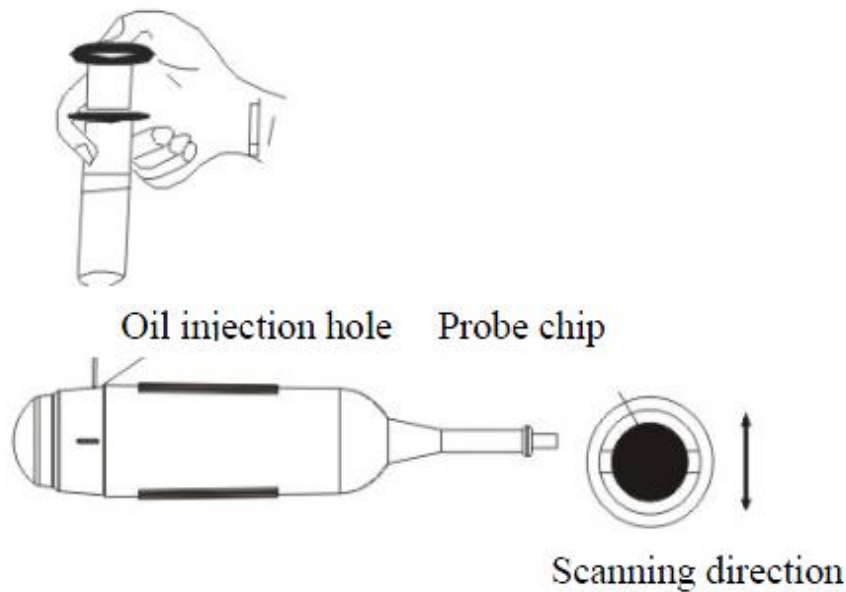

Figure 6-1 Oil injection and scanning direction of Mechanical Sector Scanning Probe
- Check the probe regularly to see whether it is filled with clean medical castor oil, air in it will influence the image quality. If air bubbles appear, turn the probe oil filler hole up and screw off the sealing screw, turn the probe slowly to drive the air bubbles to the screw hole, infuse a little bit of castor oil into the screw hole with syringe with a needle (refer to figure 6-1), vent the air bubbles and fasten the sealing screw and finally clean the oil stain on the probe surface.